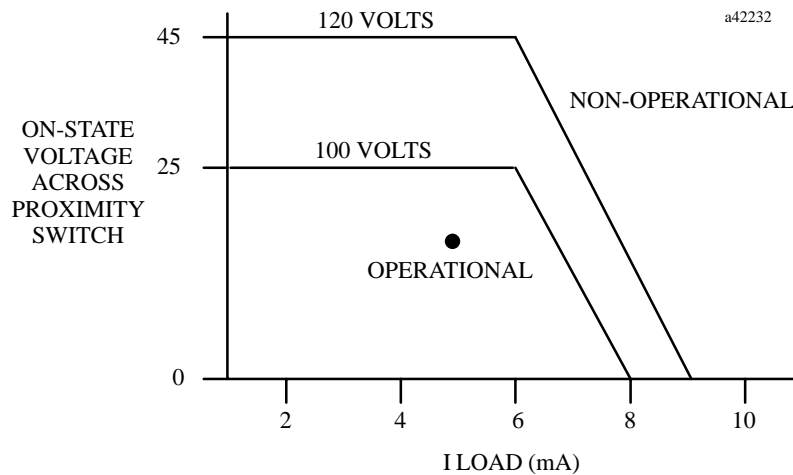

Figure 2. Proximity Switch Compatibility
2. To remove the terminal board, grasp the top of the terminal board and swing it outward as shown in Figure 2.
4. The terminal board is designed to accept a maximum of (40) AWG #14 (2.10 mm²) wires. If AWG #14 (2.10 mm²) wires are to be used, then wire markers should be placed at least 8 inches (203 mm) from termination end to provide sufficient space for the hinged door to close.